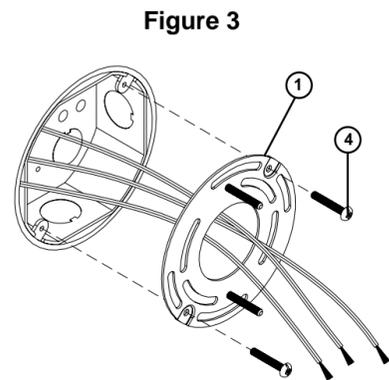

Figure 3
3. **With the power turned off at circuit breaker box,** position Mounting Plate (1) near the junction box and feed supply wires through center hole, position with installed Screws aligned **vertically** (after mounting) and threads facing outward. Secure using Screws #8-32x1-1/2" (4) provided. **See Fig 3.**
4. **To wire Channel: With the power turned off, connect** the black supply wire to the black wire from the fixture wire Wirenut (9) then connect white power supply wire to white striped fixture wire. Ground fixture by connecting the green fixture wire to the bare copper supply wire (If house wiring does not include a ground wire, consult your local electrical code for approved grounding methods). Tuck wires in junction box.
3. **Con la electricidad apagada en la caja de cortacircuitos,** coloque la Placa de Montaje (1) cerca de la caja de lambrado y alimente los alambres de suministro por el agujero de centro, coloque con los Tornillos instalados alineados **verticalmente** (después de montaje) e roscas mirando hacia afuera. Asegure usando Tornillos #8-32x1-1/2" (4) proporcionados. **Vea el Fig. 3.**